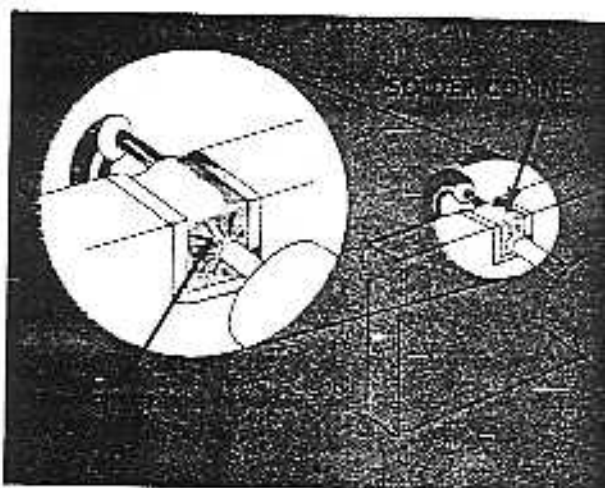

Fig. 4-3. A slight fillet of solder is formed around the wire when heat is applied correctly.
4. Apply one corner of the rip to the strip where you wish to solder (see Fig. 4-3).
6. Do not attempt to fill the notch on the strip with solder; instead, apply only enough solder to cover the wires adequately, and to form a slight fillet on the wire as shown in Fig. 4-3.